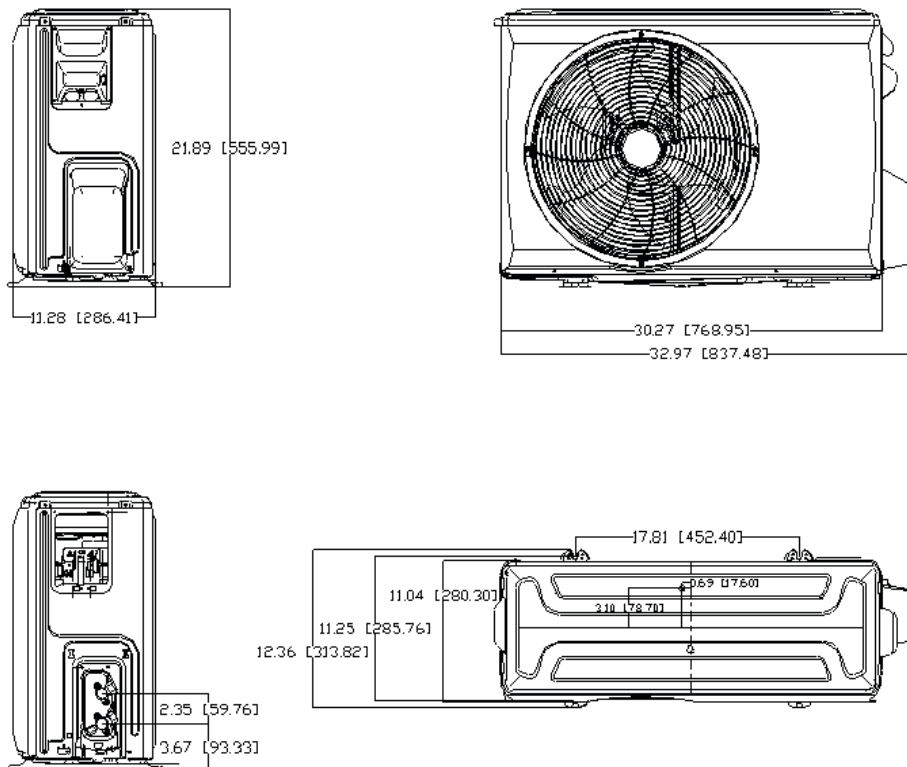

Fig. 3 — Sizes 12K (115V) and 6K (208/230V)
2. Use a rigid base to support the unit in a level position. If conditions or local codes require the unit be attached to a pad, tie down bolts should be used and fastened through knockouts provided in unit base pan. Refer to unit mounting pattern in Fig. 3 to determine base pan size and knockout hole location. For hurricane tie downs, contact distributor for details and PE (Professional Engineer) Certification, if required. For extreme outdoor conditions applications refer to the 'Cold Climate Application Guideline Ductless.